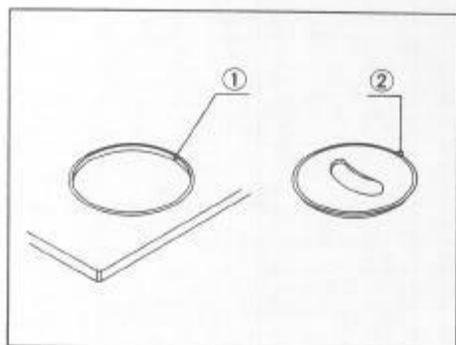

Fig. 6
Aligning the guide pin ② of the insert plate with the notch ① in the stage, mount the insert plate. (Fig. 6)